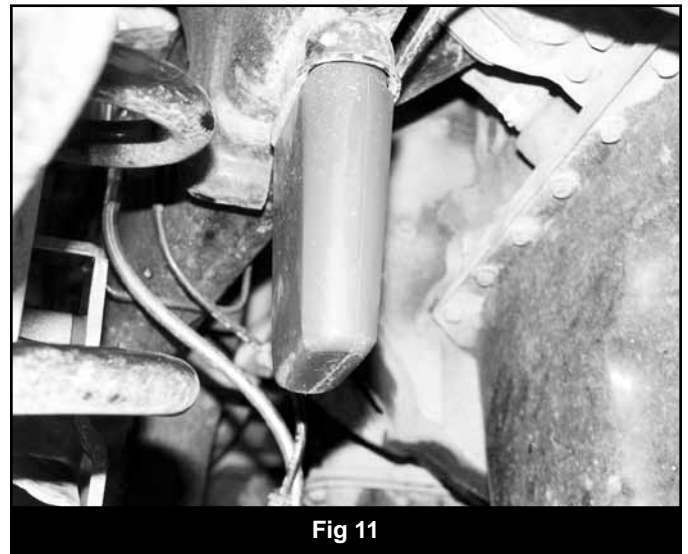

Fig 11
34. Install the new extended bump stops in the original frame mounts. Grease the mounting surfaces to ease installation. (Fig. 11)